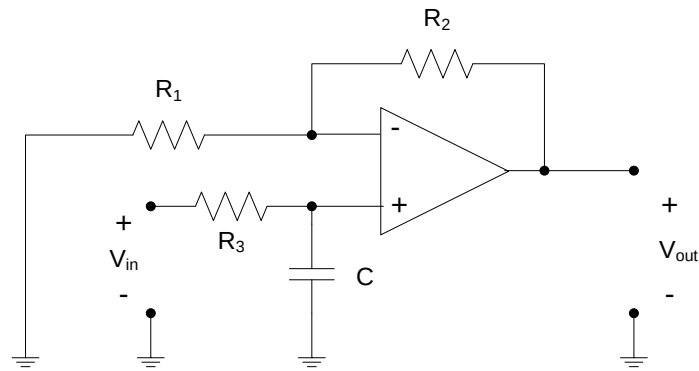
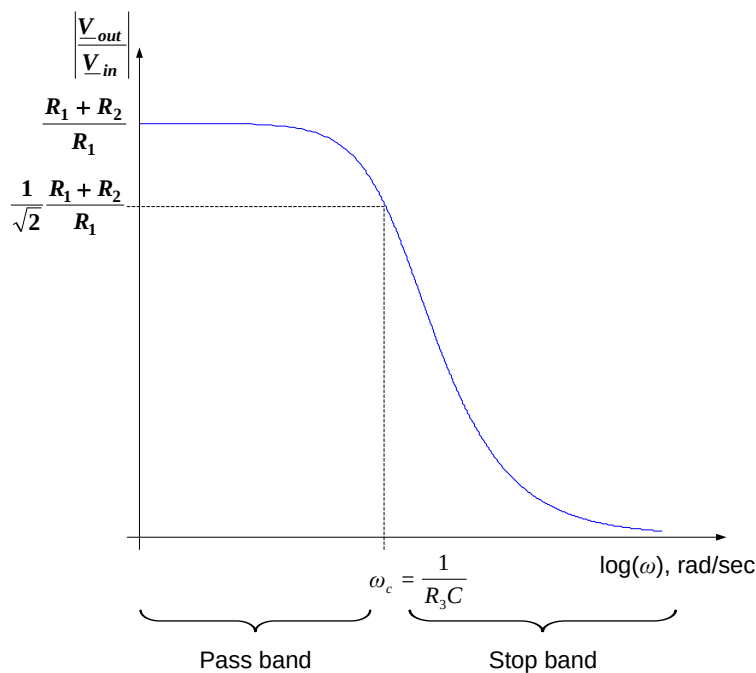

Figure 2. Signal conditioning circuit.
Figure 3. Signal conditioning circuit amplitude response.
We will implement the above operations using the circuit shown in Fig. 2. The frequency response of the circuit shown in Fig. 2 is:
The amplitude response of the overall signal conditioning circuit of Fig. 2 is shown in Fig. 3. The low frequency gain (as  $\omega \rightarrow 0$ ) of the circuit is  $\frac{R_1 + R_2}{R_1}$ , and the filter’s output goes to zero at high frequencies (as  $\omega \rightarrow \infty$ ). The *cutoff frequency* of the circuit indicates at what frequency the filter’s output begins to decrease rapidly; for our circuit, the cutoff frequency is  $\omega_c = \frac{1}{R_3 C}$ . The DC gain can be used to amplify the output of the piezoelectric sensor in the pass band, while the stop band can be used to eliminate the noise in the signal at high frequencies. (Signals entering the circuit with frequencies below the cutoff frequency – the pass band – are amplified; signals entering the circuit with frequencies above the cutoff frequency – the stop band – are attenuated.)
- a. Using equation (1) as your starting point, show that the amplitude response of the circuit of Fig. 2 is as provided in equation (2)
- b. Using equation (1) as your starting point, determine the phase response of the circuit of Fig. 3
- c. Determine the cutoff frequency of the circuit of Fig. 2. What is the gain and phase of the circuit at the cutoff frequency?
- a. Design a circuit like that shown in Fig. 2 (e.g. choose  $R_1$ ,  $R_2$ ,  $R_3$  and  $C$ ) to provide a DC gain of approximately two and a cutoff frequency of roughly twice the sensor's dominant vibration frequency as determined in Part I of this lab assignment.
- a. Apply the sensor output voltage to the input terminals of the signal conditioning circuit,  $V_{IN}(t)$ . Using the oscilloscope, measure both  $V_{IN}(t)$  from the sensor and the signal conditioning unit's output voltage,  $V_{OUT}(t)$  in Fig. 2. "Flick" the sensor and record an image of the oscilloscope window, showing the voltages  $V_{IN}(t)$  and  $V_{OUT}(t)$ . Comment on your results relative to your expectations.